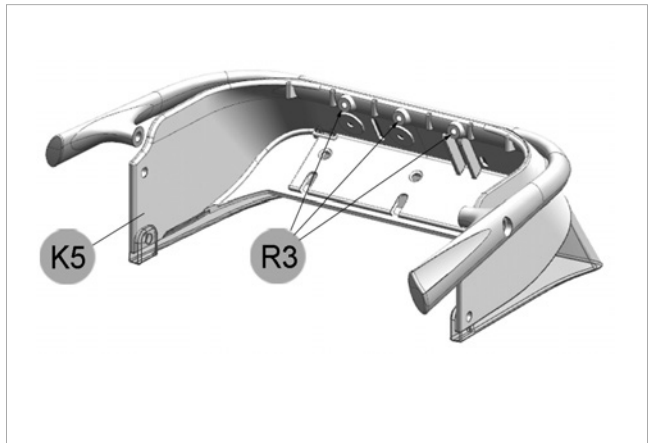

Fig. 39
- 2) Loosen the 3 screws (R3) and remove the rollbar (R) (Fig. 39).